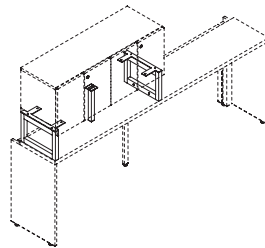

Figure 17
- A cubby and/or cabinet can span multiple rail assemblies. Only one cubby or cabinet can be planned per rail assembly (Figure 17).